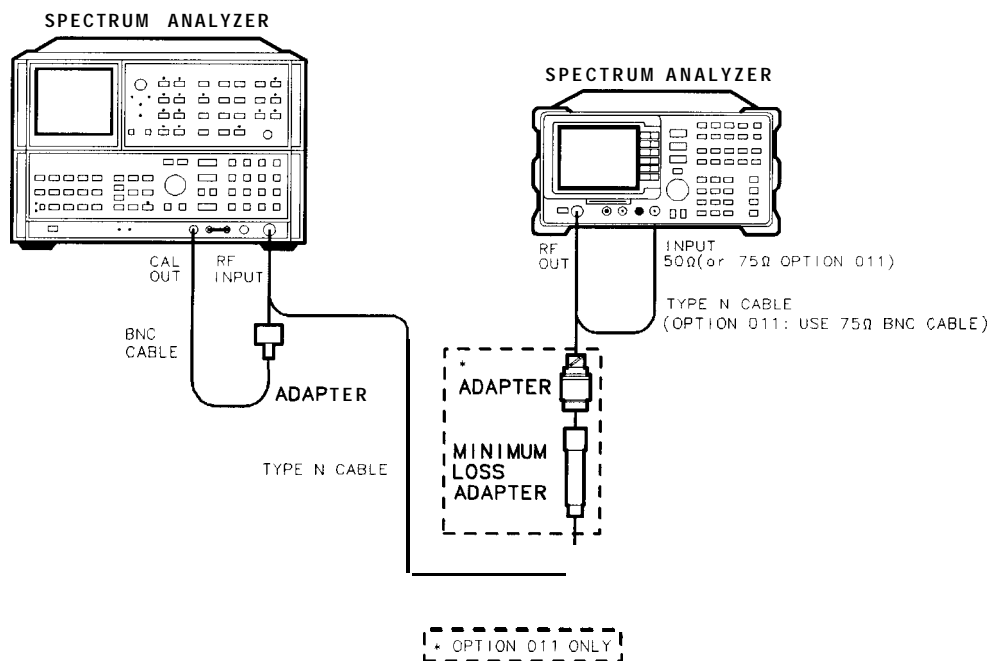

Figure 2-93. Harmonic Spurious Outputs Test Setup
1. Connect the Type N cable between the RF OUT 50  $\Omega$  and INPUT 50  $\Omega$  connectors on the spectrum analyzer. See Figure 2-93.
5. Connect the Type N cable from the tracking generator output to the microwave spectrum analyzer RF INPUT as shown in Figure 2-93.